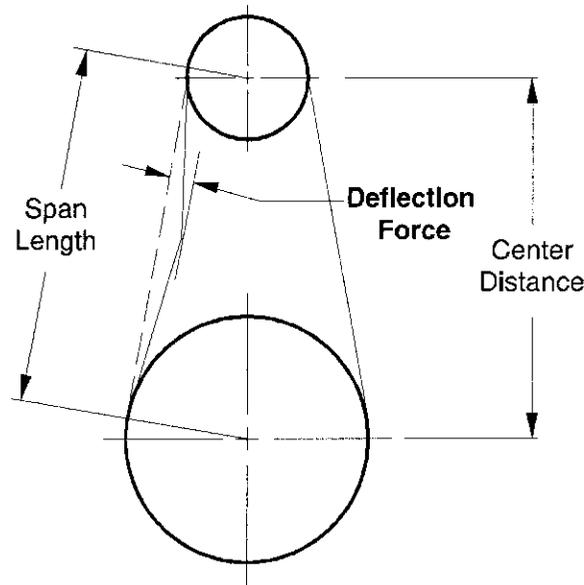

Figure 34: Belt Tensioning
Refer to Figure 34, page 77.
2. Check the tension of belts by measuring the deflection force using a tensiometer or equivalent spring scale. Apply a perpendicular force to any one of the belts or belt at the mid point of the span length, *Figure 34, page 77.*
7. Stop the drive and tension the belts to the maximum deflection force recommended, *see Table 10 and Table 11*. Measure the deflection value using a tensiometer or equivalent spring scale. Apply a perpendicular force to any one belt at the mid point of the span, *Figure 34, page 77*.